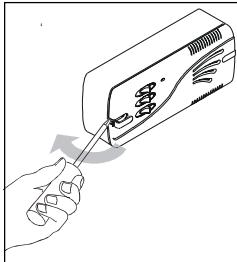

Fig. 2a : Removing screw covers
- 1 Detach the Fascia from the Mounting Frame by removing the screw covers and two screws (Refer to Fig. 2a&b).